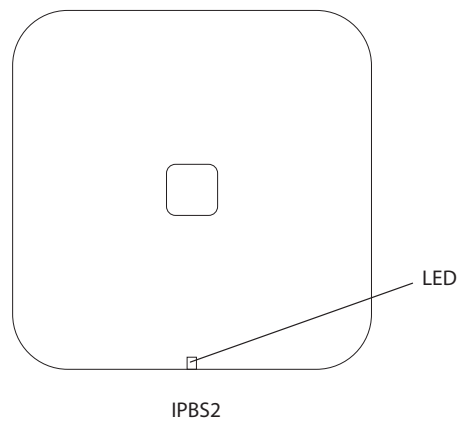

Figure 13. LED on IPBS4x2.
**For IPBS4x2:** You can also check the synchronization by looking at the LED on the base station IPBS4x2, see figure 13 on page 11. For a description of LED deployment indications, see the diagram in figure 14 on page 11. When indicating no sync (LED flashing red and yellow) it might take some additional time (10 to 30 seconds) to regain synchronization when entering the sync coverage again.